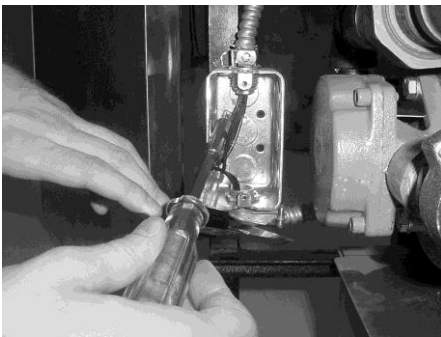

Figure 2-71
3. Remove the 2 screws securing the switch box to the frame. Figure 2-71